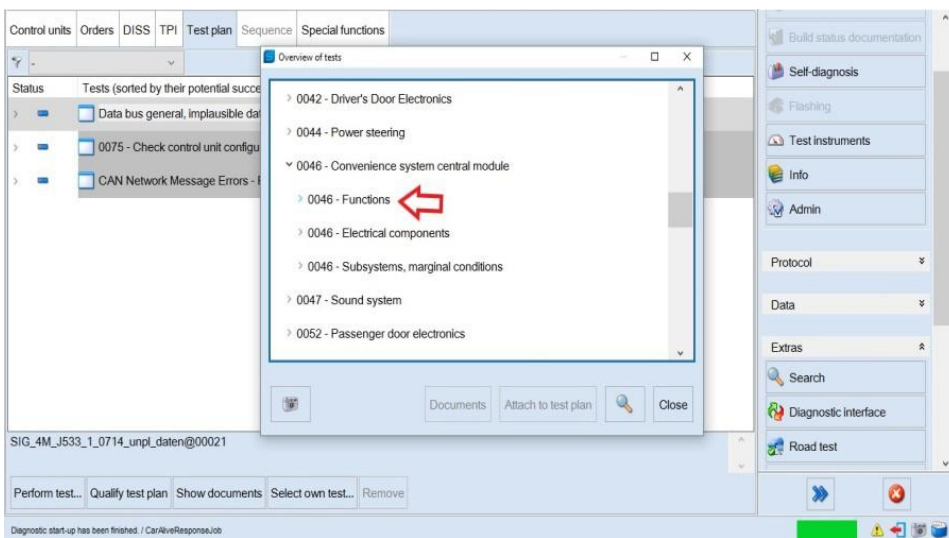

Figure 3
- Select > 0046 - Functions (Figure 3)